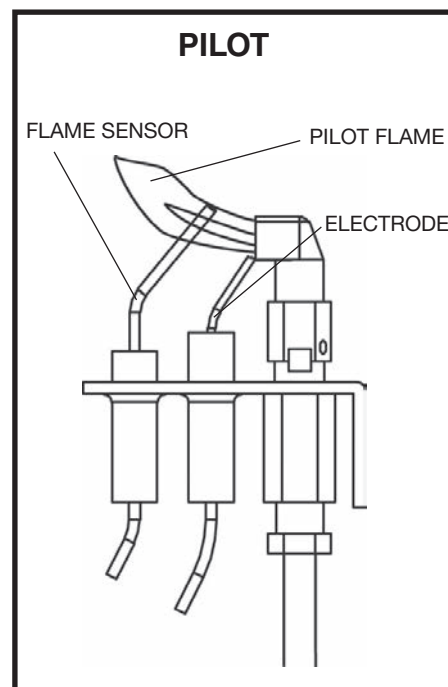

Figure 88: SIT pilot assembly.
- Check the pilot system for proper flame size and operation. Clean pilot free of soot, dust or any other deposits (Figure 88 and Figure 89). Have a qualified service person adjust the pilot flame.